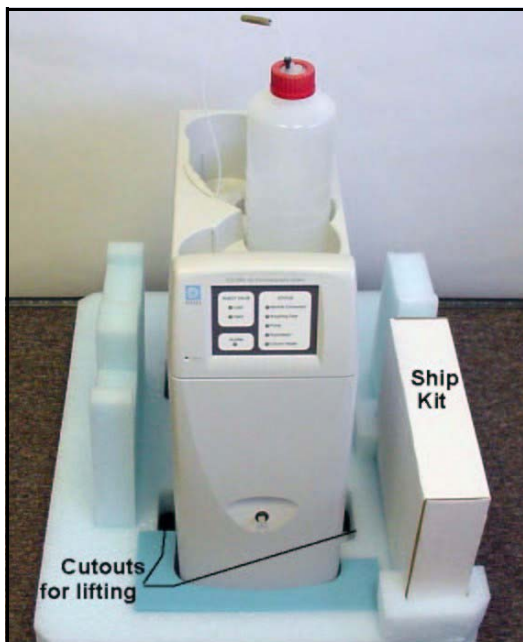

Figure B-3. ICS-1000 with Ship Kit
3. Remove the next layer of foam and remove the Ship Kit box (see Figure B-3).
4. The bottom foam layer has two cutouts on either side of the ICS-1000 module; use these as handholds when lifting the module (see Figure B-3).